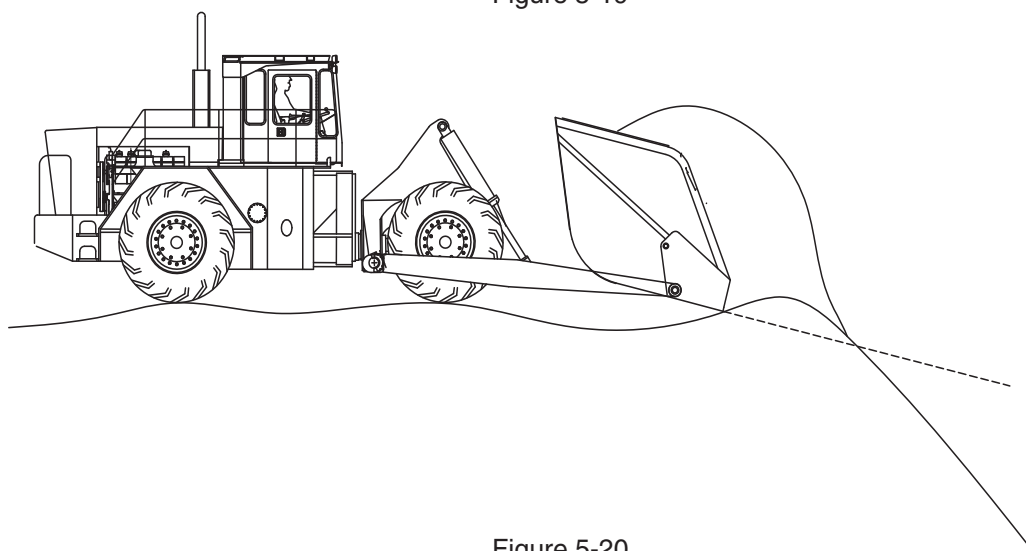

Figure 5-20
3. Building a road off a pile (See Figure 5-20).